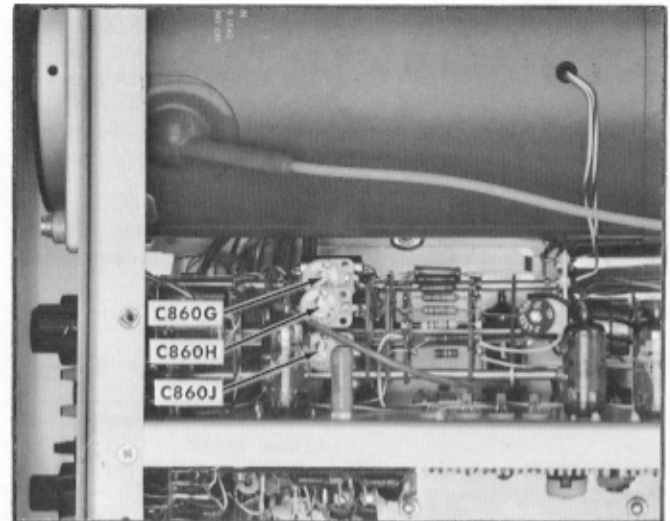

Fig. 6-49. Adjustment locations for B sweep timing, top view of Type 556.
- e. Adjust C860G (see Fig. 6-49) to obtain 1 marker/cm.
- i. Adjust C860H (see Fig. 6-49) to obtain 1 marker/cm.
- l. Adjust C860J (see Fig. 6-49) for one marker per 2 cm.